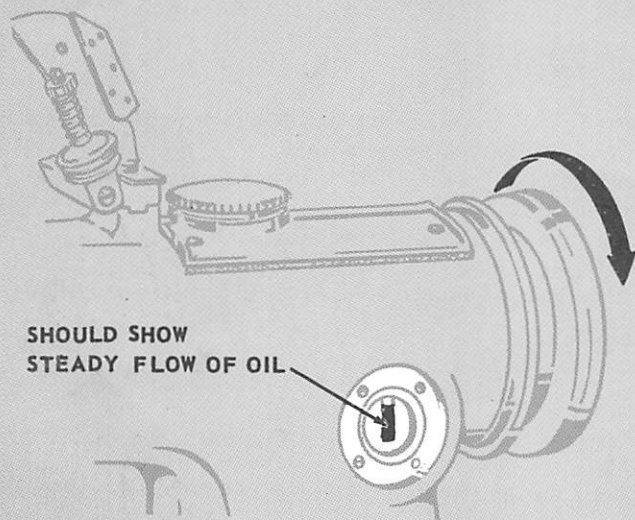

Fig. 3. Oil Flow Window
**CAUTION:** If the flow of oil passing the oil flow window shown in Fig. 3, should stop or become erratic, stop the machine immediately and do not run machine until the trouble has been eliminated.